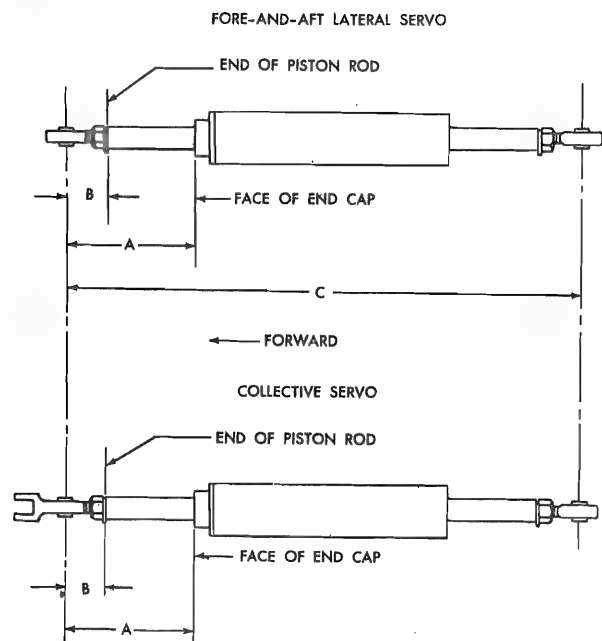

Figure 7-33. Rigging Dimensions—Main Rotor Auxiliary Servo Units
i. Using vernier calipers, carefully measure dimensions A and B (figure 7-33) on power pistons of the auxiliary servo units for lengths given in table 7-VIII. Disconnect auxiliary servo unit rod ends and adjust, if necessary, to obtain dimensions.
x. If angular reading in steps *v* and *w* are not obtained because a power piston bottoms in auxiliary servo unit before correct angle is obtained, perform following: Disconnect power piston rod ends from links (23, figure 7-5) that are attached to mixing unit. Disconnect power piston rod ends from input arms (13 and 17, figure 7-28) and collective pitch input arm (15) on auxiliary servo unit. To increase forward stick or left stick blade angles or to decrease aft stick or right stick blade angles, increase length of dimension B (figure 7-33) on that end of power piston that connects to mixing unit and decrease dimension B exactly the same amount on that end of power piston that connects to input arm. To decrease forward stick or left stick blade angles or to increase aft stick or right stick blade angles, decrease length of dimension B on that end of power piston that connects to mixing unit and increase dimension B exactly the same amount on that end of power piston that connects to input arm. Dimension C must be held constant. Connect power piston rod ends to input arms and to links at mixing unit. To insure that rest of flight controls have not been disturbed, install a 5/16 x 13-inch rigging pin (40, figure 7-28) through pilot's and the copilot's support and yoke assembly, and 3/16 x 5-inch rigging pins (8 and 49) through bell cranks (7 and 50). Remove rigging pins and repeat steps *v* and *w*.